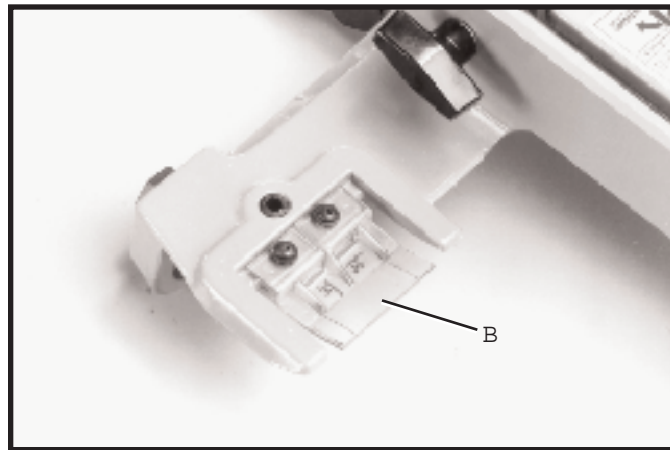

Fig. 42
2. Fig. 42, illustrates the cursor (B) assembled to the Unifence body. Adjustment to the cursor (B) will be made later.